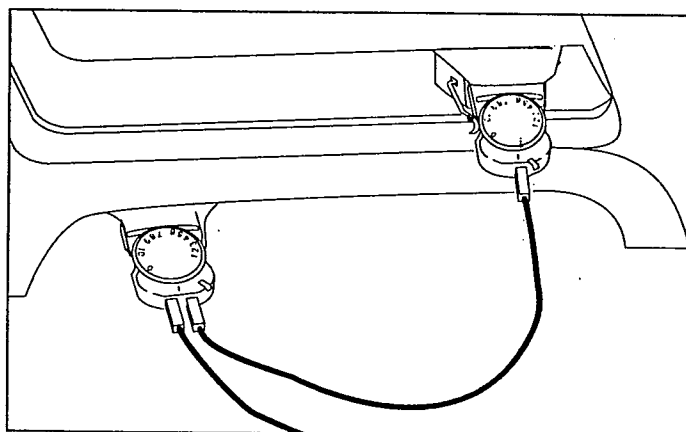

Figure 3
3. Firmly push probe of Grilling Plate (lower plate) Temperature Control into the receptacle on the side of the Grilling Plate (lower plate). See Figure 3.